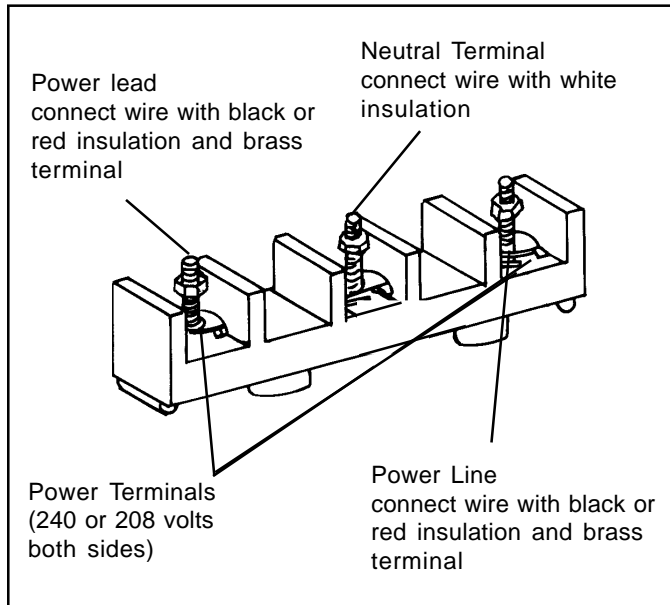

Figure 6
5. Attach power lead, red wire or black wire to left terminal. (Figure 6)